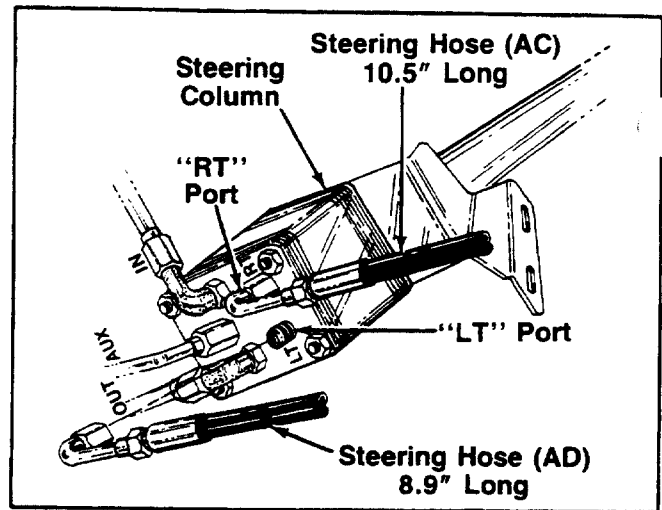

FIGURE 24.
19. Assemble the 90° end of steering hose (AC) (10.5 inches long) to the "RT" port on steering column. Tighten securely at this time. See figure 24.
20. Assemble the 90° end of steering hose (AD) (8.9 inches long) to the "LT" port on steering column. Tighten securely at this time. See figure 24.